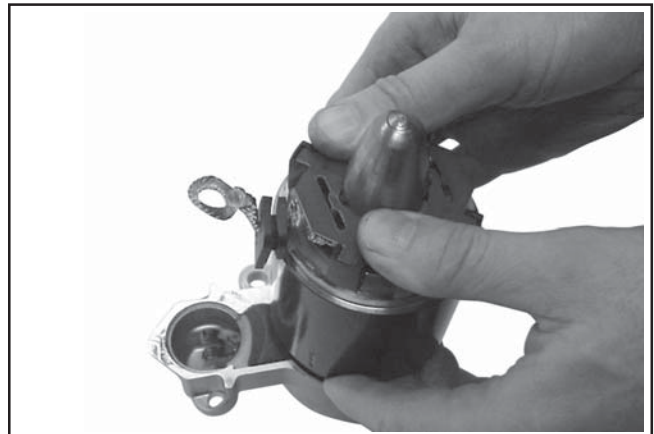

Figure 8-67. Installing Frame with Brush Plate Assembly.
10. Carefully slide the frame with the brush plate assembly down over the tool and onto armature and drive end cap, aligning the cutout with lever section (on top). The rubber insulating grommet should also be **up**. See Figure 8-67.